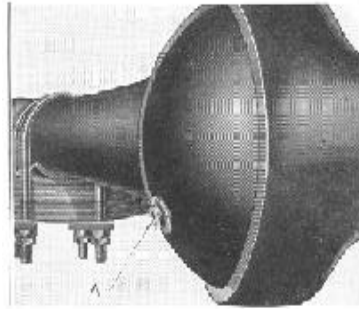

Figure 11
The oil should always be kept to the level of the filler plug (A), Figure 11. Drain the oil and replace with three pounds (or pints) of fresh oil with change of season.